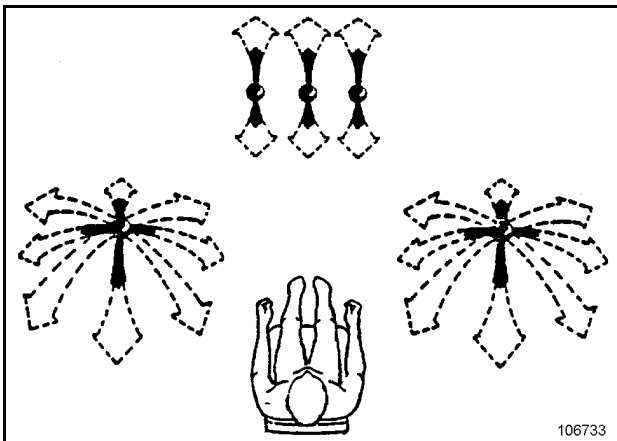

Fig. 3-55:
- Shift both control levers and all pedals repeatedly into all directions (Fig. 3-55:).